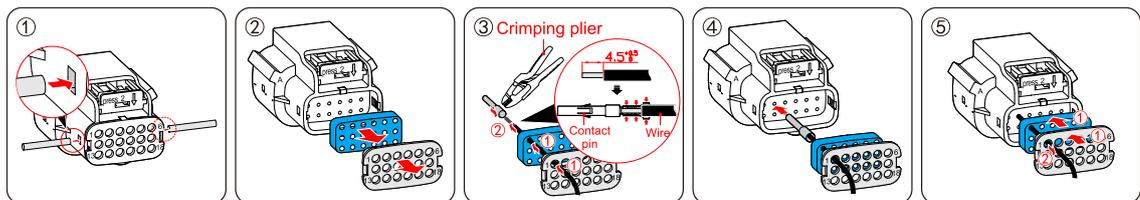

Figure3-25 Crimp COM terminal
Step 1 Crimp the communication wires to the contact pin of connector, as shown in Figure3-25.